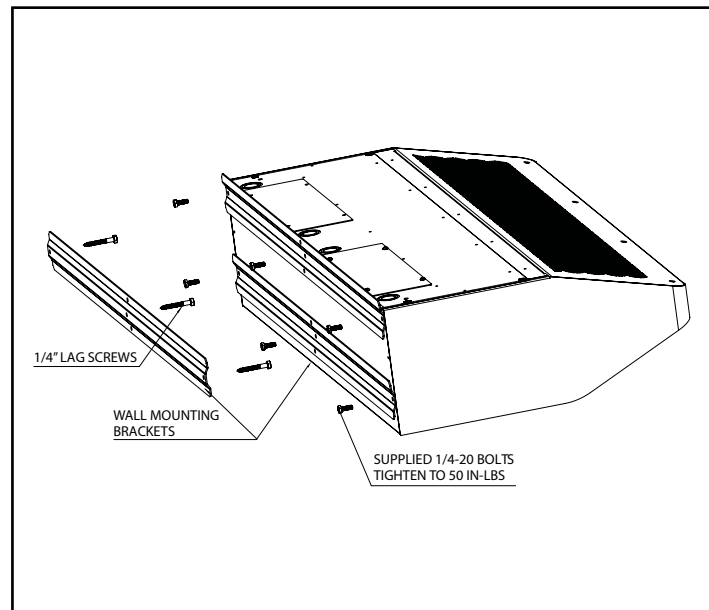

Figure 4 - Wall Mounting Preparation
2. Use 1/4"-20 bolts to attach the wall mounting brackets to the back of the air curtain. **See Figure 4.**